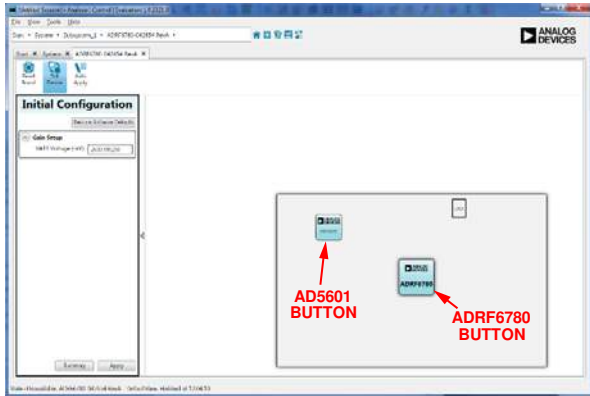
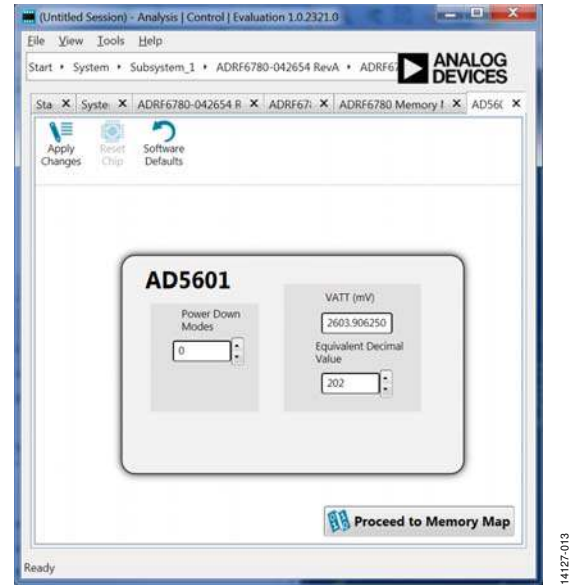

Figure 9. Initial Configuration for the Gain Setup and Board Plugin View
Figure 13. AD5601 nanoDAC User Interface
- The **ADRF6780-042654, Rev. A** tab then opens. On the left-side of the screen, click **Initial Configuration** to open this menu. Go to **Gain Setup** to enter the VATT voltage Note that 2600 mV is the highest gain for the device (see Figure 9). Click **Apply** and then double-click the **ADRF6780** button (see the middle of the screen shown in Figure 9).
When using an external power supply for the VATT voltage, use the AD5601 nanoDAC plugin to change the voltage or power down the nanoDAC. To open the nanoDAC plugin, select the AD5601 tab at the top of the ACE software window or double click the AD5601 button within the ADRF6780-042654, Rev. A tab (see Figure 9). Figure 13 shows the AD5601 nanoDAC user interface. The user interface contains two section: the **Power Down Modes** section and the VATT voltage section.
After making any changes to the voltage or the power-down mode, click **Apply Changes** shown in the top left of the ACE software window (see Figure 13). When the **Auto Apply** button is selected in the ADRF6780-042654, Rev. A tab, these changes take place automatically; therefore, there is no need to click **Apply Changes**.